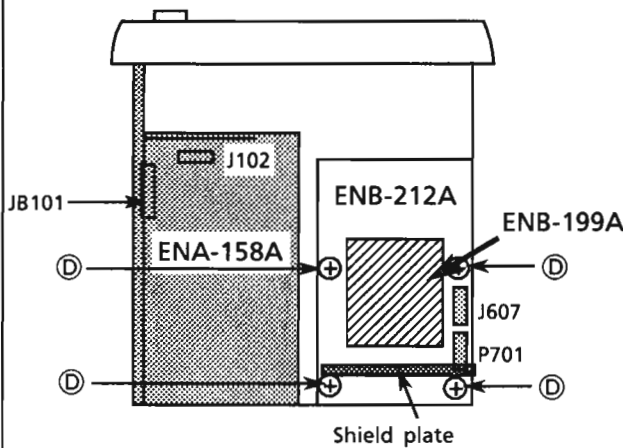

Fig 3 Top view
3. Remove the 10 screws **(C)** and 4 screws **(D)** (Fig 3)